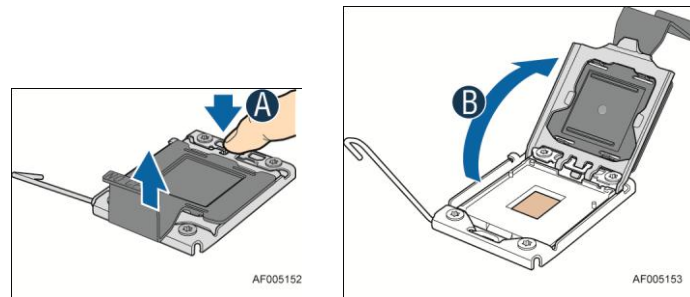

Figure 31. Installing Processor – Open the Load Plate
2. Open the socket lever, see Figure 31.